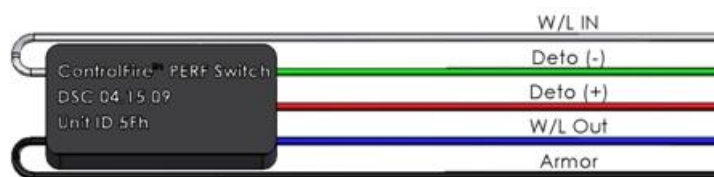

Figure 4
- **ControlFire® Switch Rev 1.7 PCB 1.0D** – Shown in Figure 4 is an expendable ControlFire® Perf Switch. Every gun/plug in a gun string must be equipped with a Perf Switch. Each switch can be verified, armed, selectively fired or skipped upon command from the surface. An RF-Safe ControlFire® system is also available. See Section 10 for part numbers regarding the RF-Safe ControlFire® assembly options.